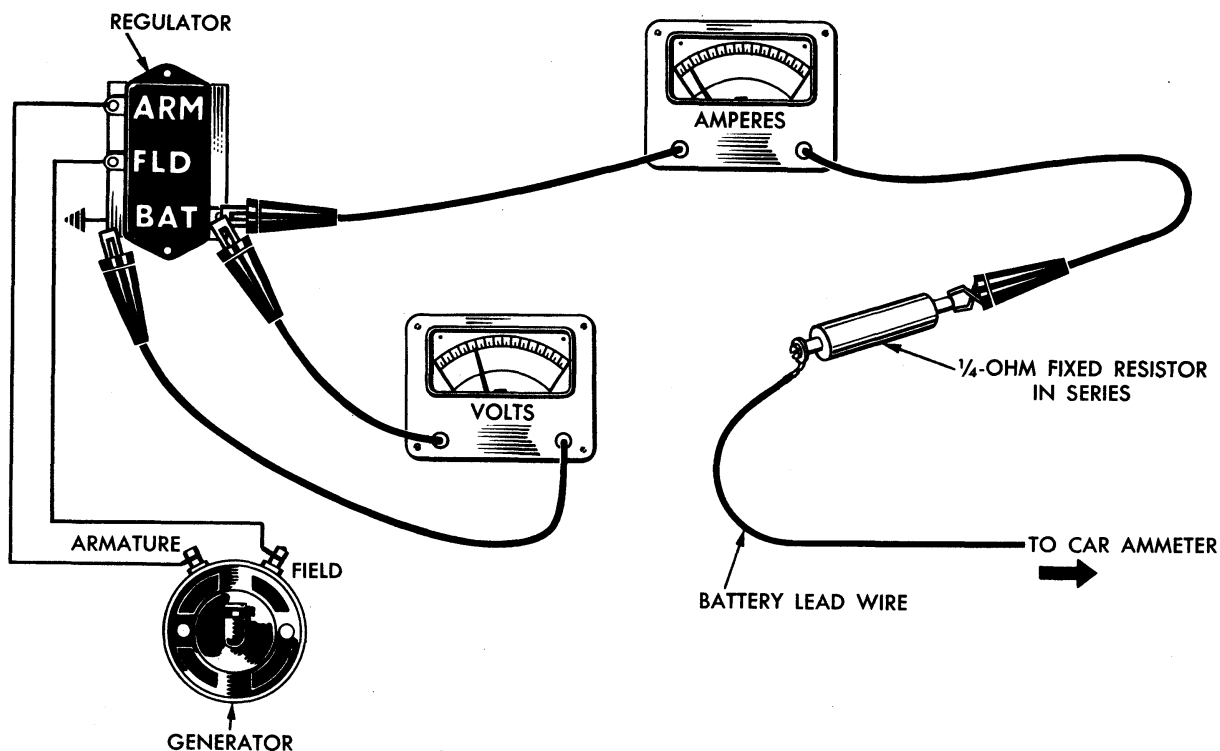
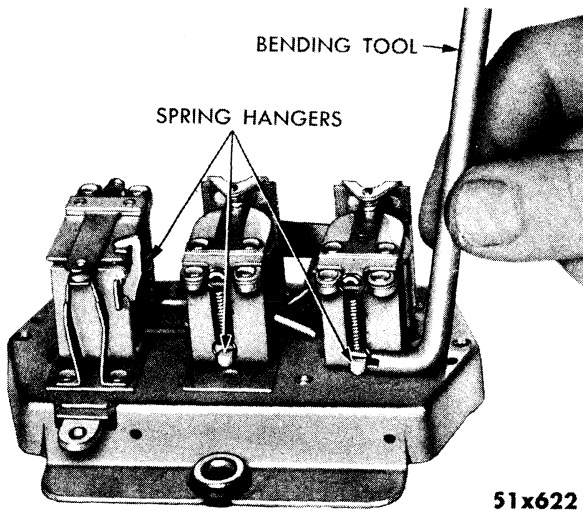

Fig. 10—Voltage Regulator Test
Fig. 11—Adjusting Armature Spring Tension
32. TESTING THE VOLTAGE REGULATOR SETTING (FIG. 10)
Connect test equipment (Fig. 10), start engine and operate at 1,500 r.p.m. Hold Fahrenheit thermometer 2 inches from regulator cover and note temperature reading. Observe voltage on test voltmeter. Compare voltage reading and temperature with those shown in Specifications. If adjustment is required, decrease engine speed to slow idle. Remove regulator cover and bend lower hanger of voltage regulator **down** to increase voltage or **up** to decrease voltage (Fig. 11). Replace regulator cover, increase engine speed to 1,500 r.p.m., and check temperature and voltage readings.